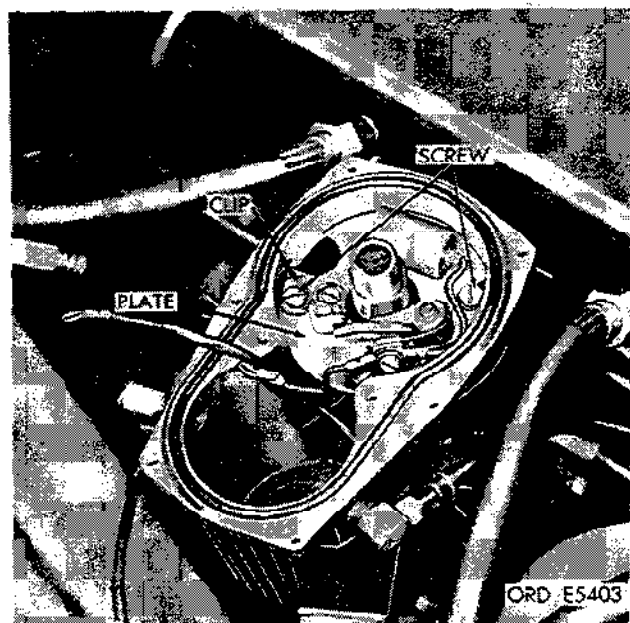

Figure 2-154. Removing or installing breaker plate.
(7) Remove two breaker plate retaining screws, lockwashers and clips and remove breaker plate assembly (fig. 2-154).
(5) Install breaker plate assembly to distributor base and secure with two screws, lockwashers and clips (fig. 2-154).